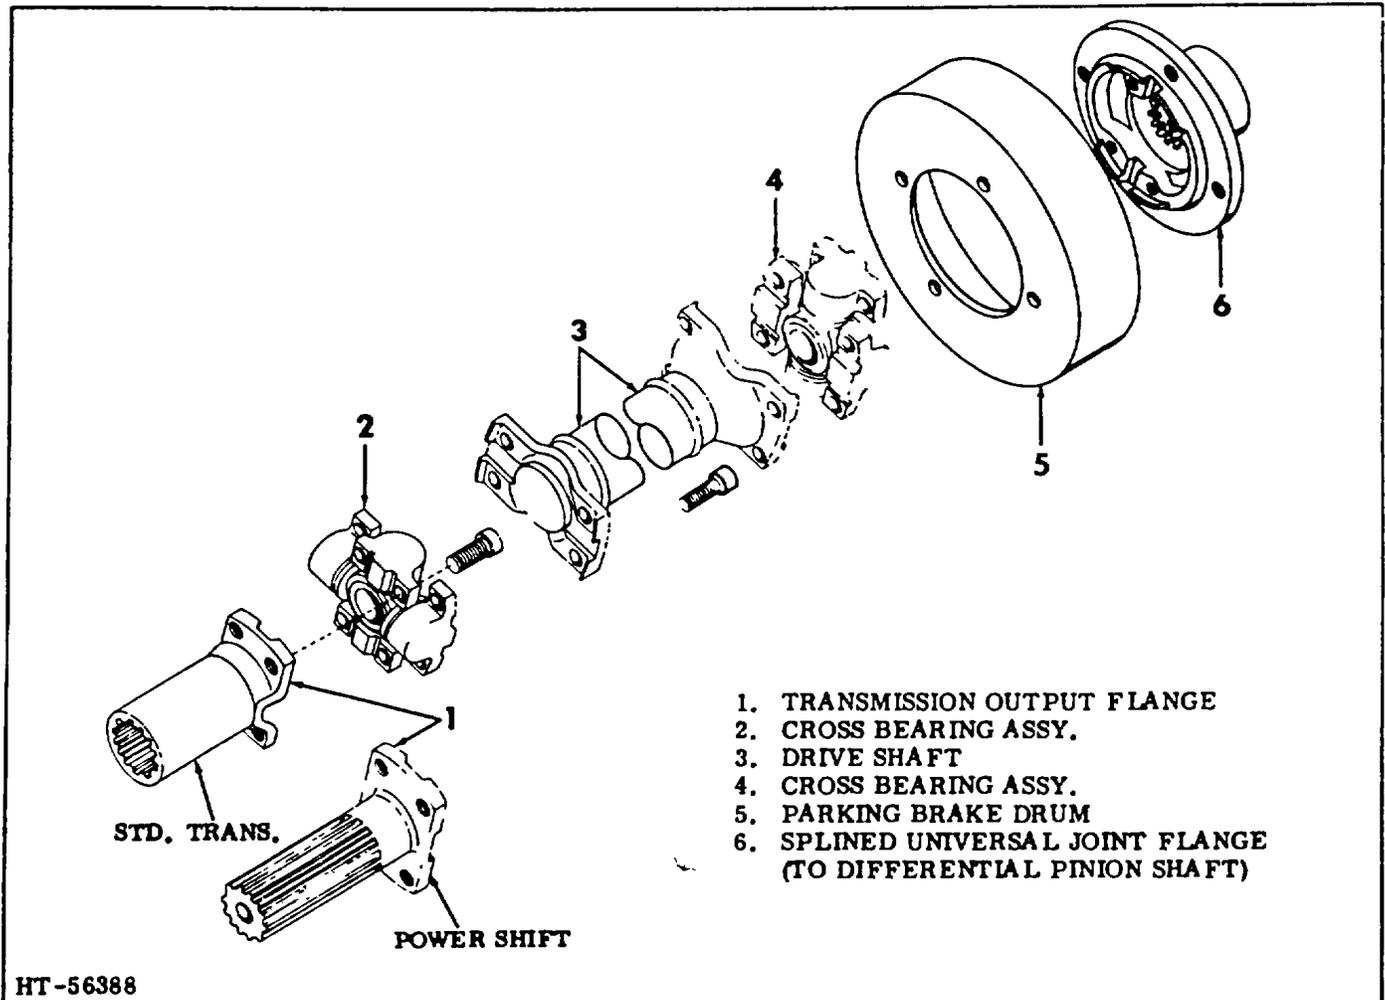

Figure 1. Universal Joint Assembly
B. REMOVAL (Figure 1)
2. At the transmission end of the assembly, remove the capscrews that attach the cross assembly (2) to the output flange (1).
3. At the differential end of the assembly, remove the capscrews that attach the cross assembly (4) to the universal joint flange (6).